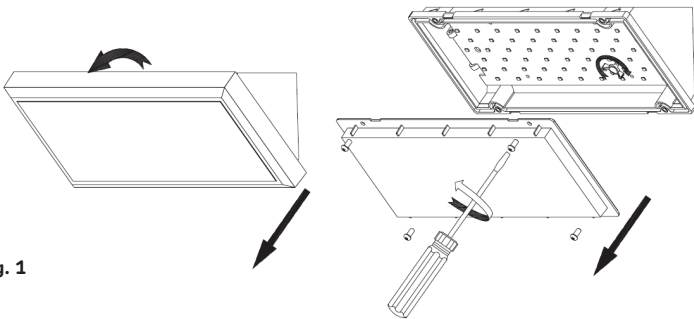

Fig. 1
- Remove the front bezel by pulling it on all four sides (see Fig. 1)